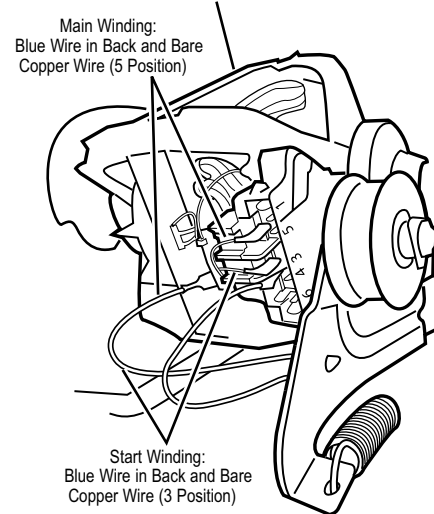

Figure 7. Main and start winding measure points.
7. Using Figure 7, check for the resistance values of the motor's Main and Start winding coils as shown in the following table.